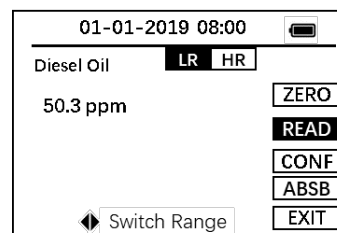

Figure 7.
10. The oil-in-water concentration in hexane extraction will be displayed as seen in Figure 7.